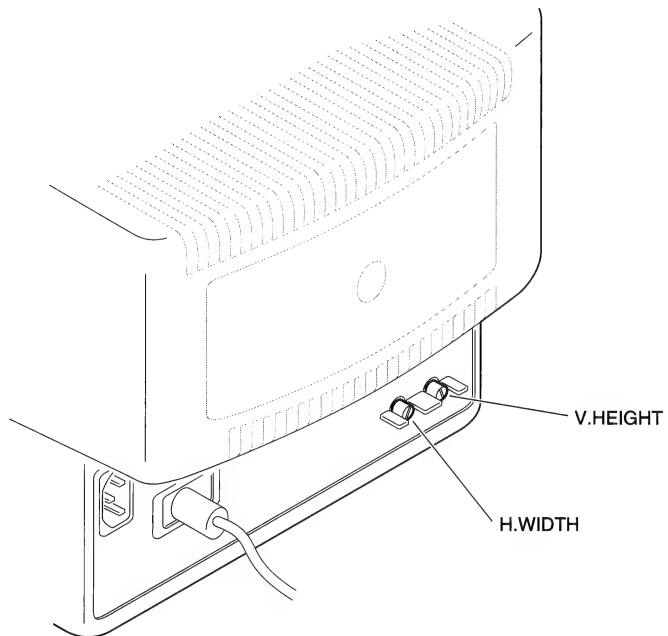

Figure 3 Size Controls
- FIGURE 3. Using the screwdriver, turn the H.WIDTH control until the raster is 240 mm (± 2 mm) or 9 1/2 inches ($\pm 1/8$ inch) wide.
- FIGURE 3. Using the screwdriver, adjust the V.HEIGHT control until the raster height is 180 mm (± 2 mm) or 7 1/8 inches ($\pm 1/8$ inch).